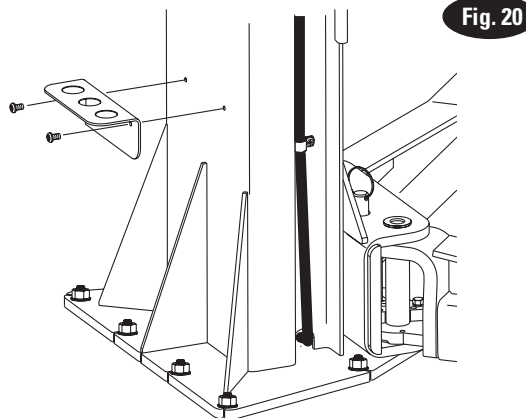

Fig. 20
18. **Installation of Rack for Adapter Extensions:** Install racks as shown, Fig. 20, using 5/16"-18NC x 3/8" PHMS.